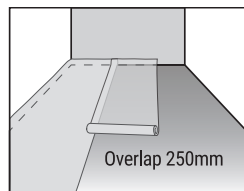

Fig 2
The subfloor needs to be dry to a maximum moisture content of 75% Relative Humidity (RH) or 65% RH when there is underfloor heating. Ensure that you use a 1000 gauge damp proof membrane sheet, overlap joints by 250mm and apply tape (ideally a plastic tape i.e. Sellotape - not a paper based tape) to seal the joint. Ensure the membrane finishes above the floor level (Fig 2).
Ensure the damp proof membrane sheet is overlapped by a minimum of 250mm and where possible is brought up the walls so that it can be cut off above the new floor level and fixed behind skirting or other trims as appropriate (Fig 2).